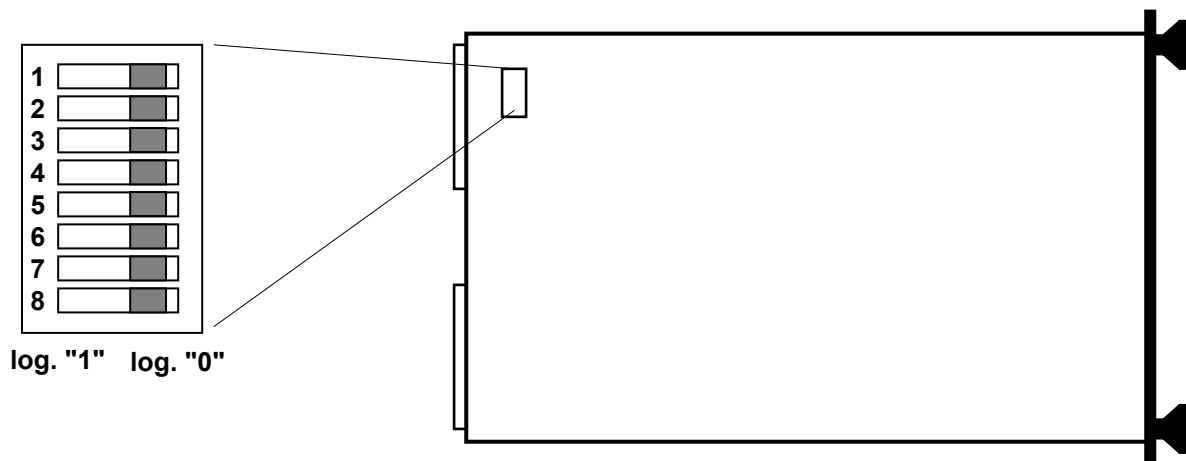

Figure 1 - Logical Address Switch Location
The logical address switch is located on the back of the module. Figure 1 shows the location of the logical address switch on the ProDAQ 3080. Set each switch to 'Off' for a logical one (1) and to 'On' for a logical zero (0). The picture shows the address switch set to logical address zero (0).